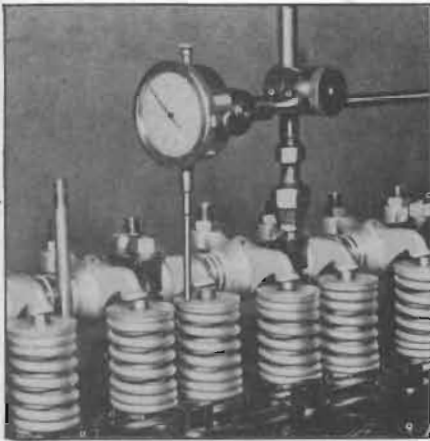

Figure 2-23—Dial Indicator Set to Check Valve Timing
2. Mounting dial indicator to bear against the valve spring cap of the fully closed exhaust valve and set indicator at zero. See figure 2-23.
2. Mount dial indicator to bear against the valve spring cap of the fully closed exhaust valve and set indicator at zero. See figure 2-23.